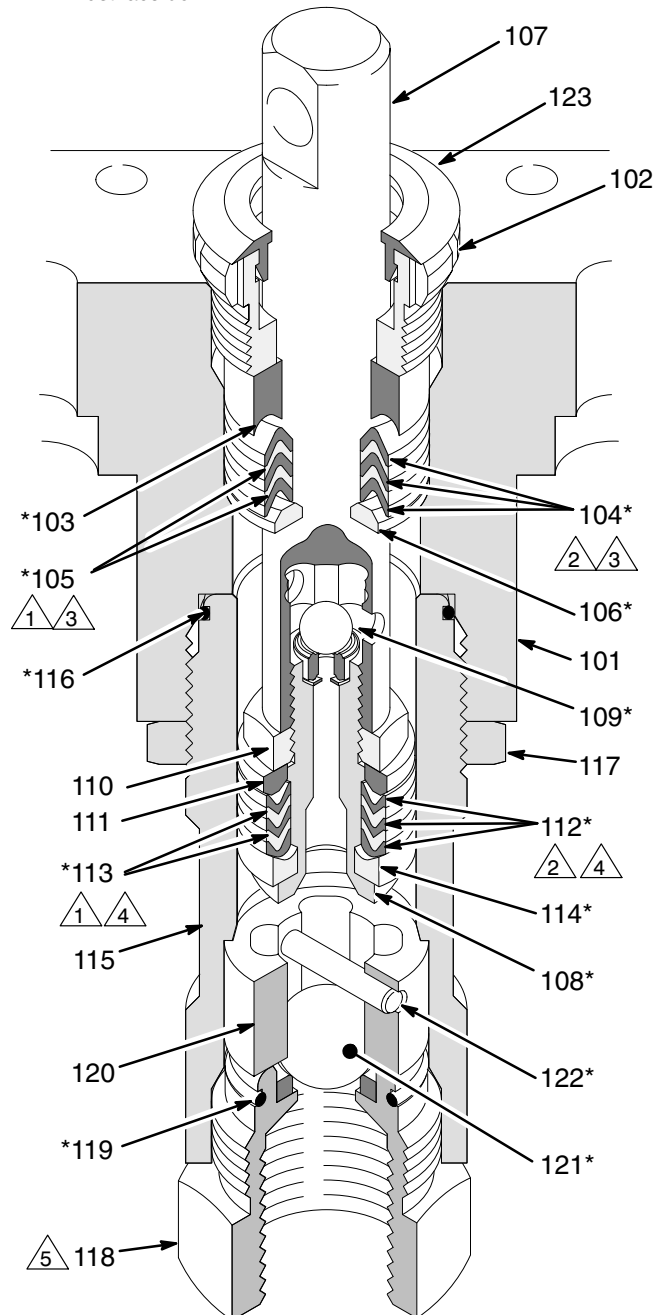

**Fig. 22** \_\_\_\_\_ 01071
- 6. Hand tighten the valve into the piston rod just until the nut (110) contacts the rod. See Fig. 22.
- 7. Place the flats of the rod (107) in a smooth jaw vise.
- 8. Carefully tighten the nut (110) against the piston rod to 30 ft-lb (40 N•m). See Fig. 22.